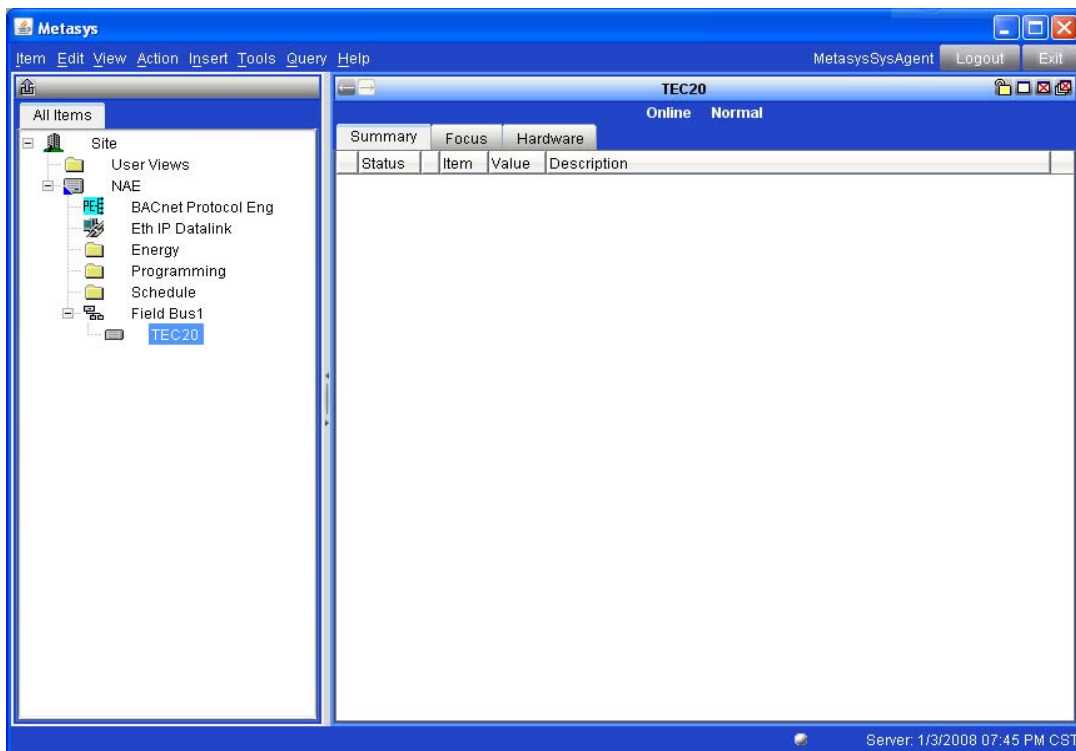

Figure 47: TEC20 Focus Screen
7. Open a **TEC20 Coordinator Focus** screen in the Metasys UI, and then click **Insert** on the menu bar (Figure 47) to open the drop-down menu.